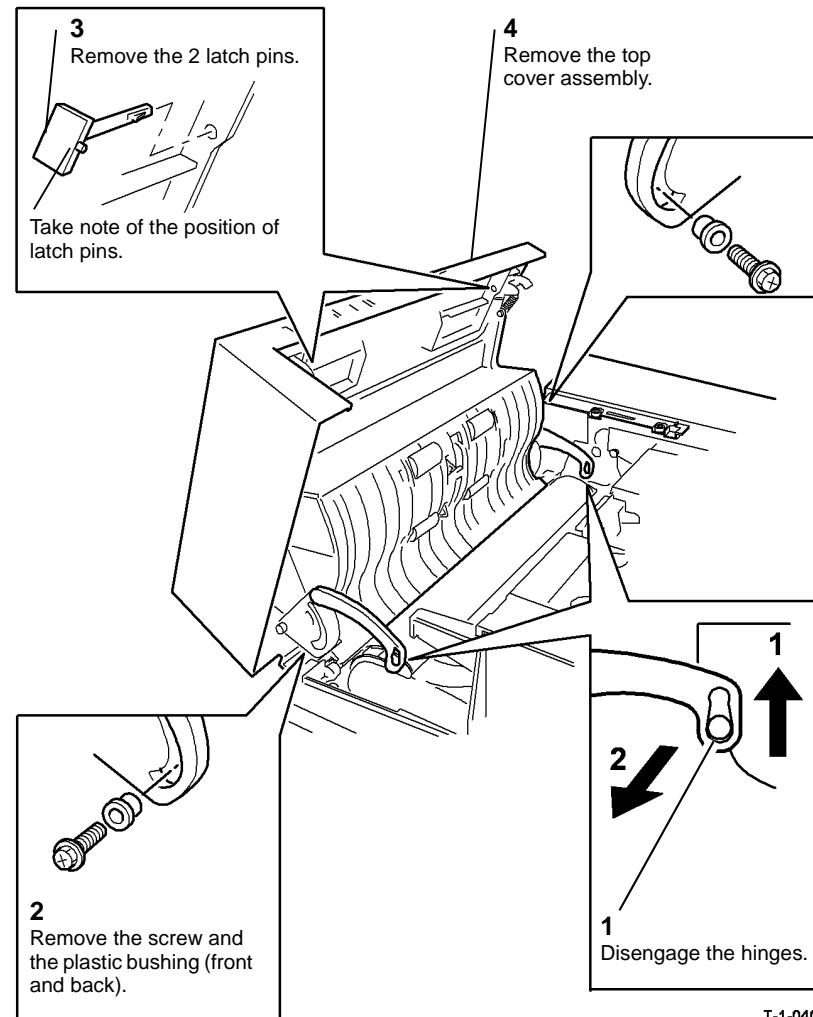

Figure 1 Top cover
2. Remove the DADH top cover assembly, Figure 1.
The replacement is the reverse of the removal procedure. Make sure the latch pins are installed correctly, refer to Figure 1.